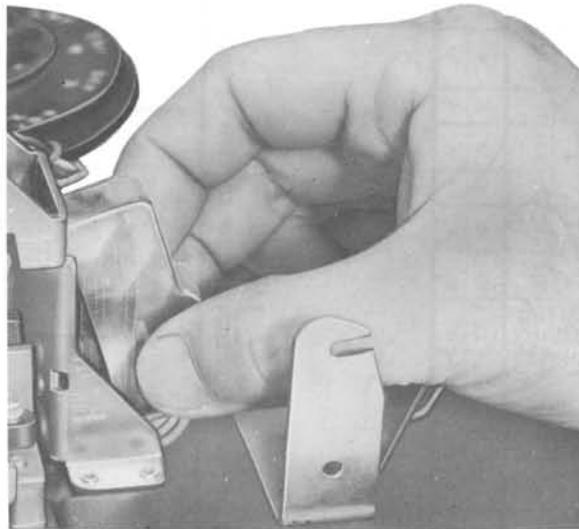

Fig. 15—Removing Line Switch Cover
- Remove line switch cover by pressing side between thumb and index finger and tilting cover up and away from mounting (Fig. 15).